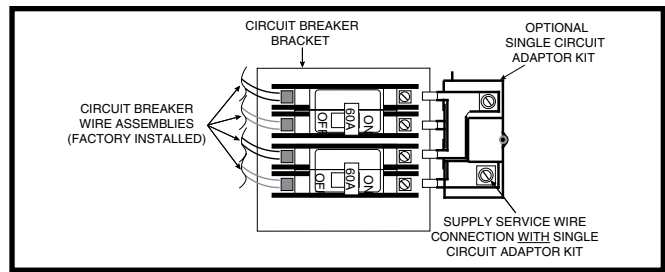
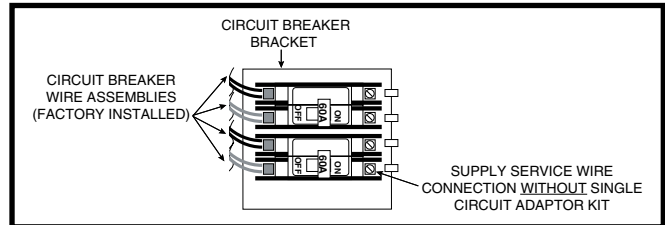

Figure 17. Optional Single Circuit Adaptor Kit
Figure 18. Installation of Supply Service Wires
- -012 models are factory-wired for single-branch supply circuit (single-circuit kit factory installed). Dual-branch circuit can be used by removing factory-installed single-circuit kit. See Figure 17.
4. Insert supply service wire(s) through cable connector(s) and connect wires to circuit breakers (Figure 17 & Figure 18). Make sure to install the correct incoming power line to correct circuit (A or B) as shown in Figure 23 (page 20), Figure 24 (page 21), Figure 25 (page 22), or Figure 26 (page 23). **NOTE:** To install single-circuit kit, perform step 5. If single-circuit kit installation is not needed, go to step 6.